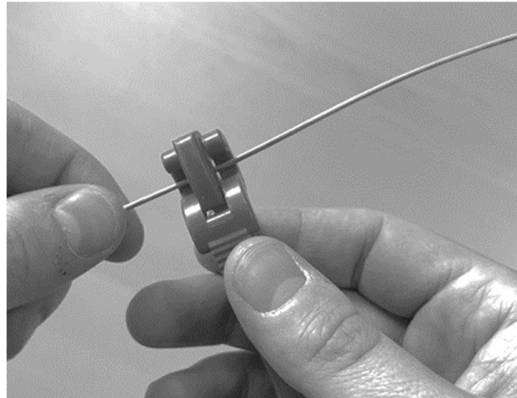

Figure 30 - Score the buffer tube
5.19 Use a buffer tube stripper to score the buffer tube (Figure 30). Make only **one** revolution around the tube. The tube should be scored rather than cut.